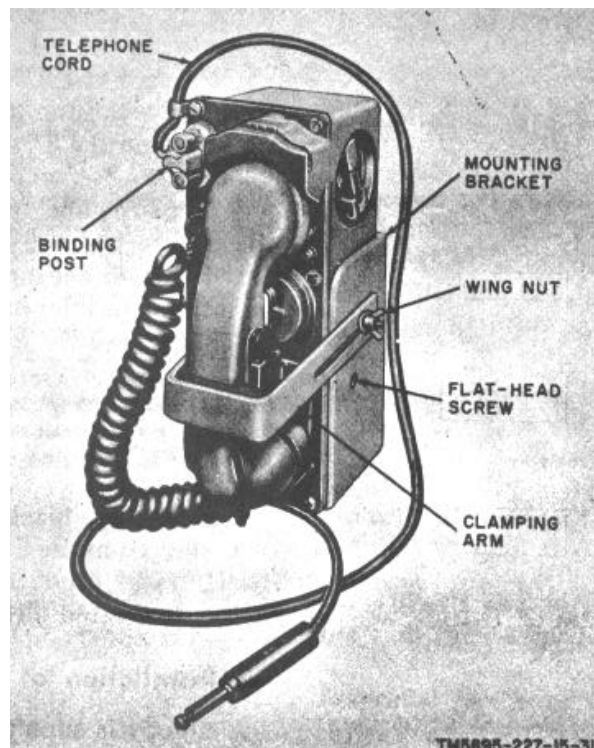

Figure 24. Telephone Set TA 312/PT, installed for transit.
- (1) Loosen the wingnut on the side of the mounting bracket (fig. 24).
- (2) Rotate the clamping arm to obtain access to the flathead screw on the side of the mounting. Tighten the wingnut.
- (3) Use a screwdriver to remove the flathead screw that secures the holding plate (inside the mounting bracket).
- (4) Remove the TA-312/PT from its carrying case; store the case.
- (5) Insert the holding plate into the buzzer recess in the side of the TA-412/PT.
- (6) Place the TA-312/PT in the mounting bracket and replace the flathead screw.